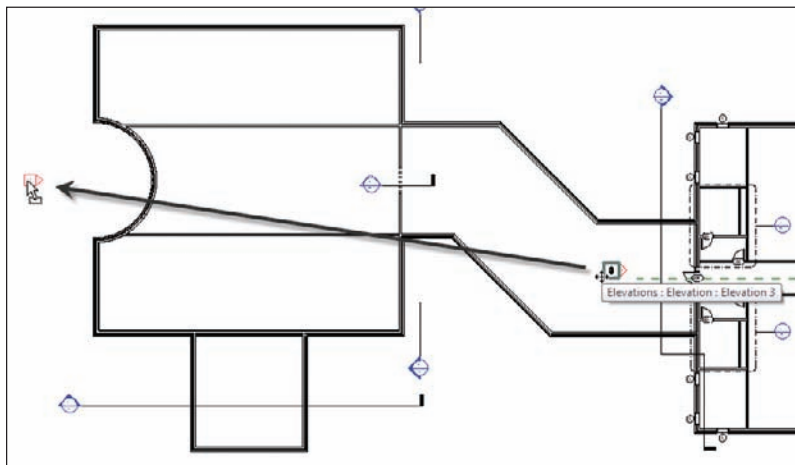

FIGURE 3.74 You can drag the elevation marker after the entire item is selected.
3. Move your mouse over the selection. Your cursor will turn into a move icon with four move arrows, as shown in Figure 3.74.
4. Drag the elevation marker to the west side of the building, as shown in Figure 3.74.